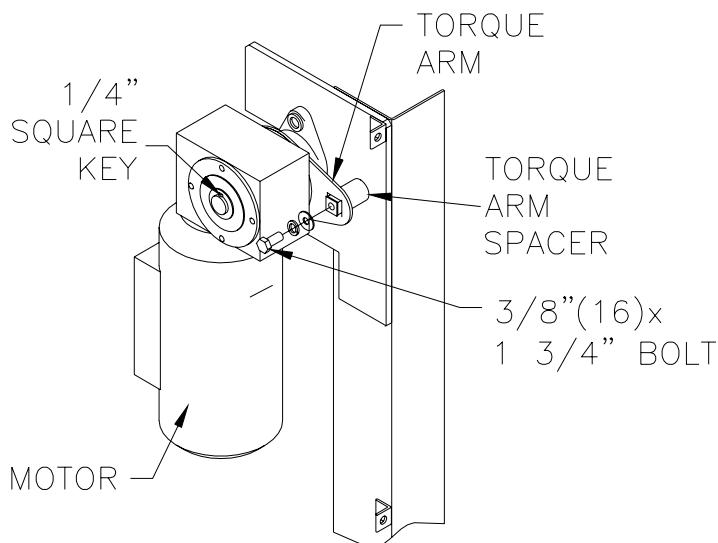

FIG. 8B
- Tighten Set Screws on Output Shaft on both sides of Gearbox (Figure 8b).